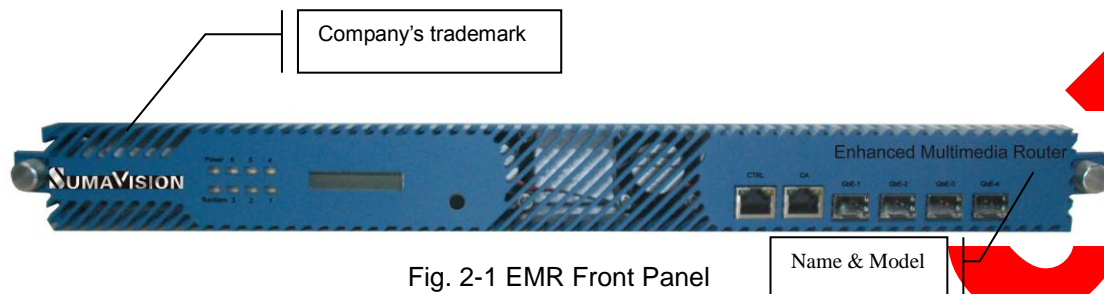

Fig. 2-1 EMR Front Panel
There are product name, model and manufacturer, etc. on the front panel of EMR, as shown in Fig. 2-1 EMR Front Panel.
**Model:** EMR3.0, as shown in Fig. 2-1 EMR Front Panel.
**Manufacturer:** Sumavision Technologies Co., Ltd., as shown in Fig. 2-1 EMR Front Panel.